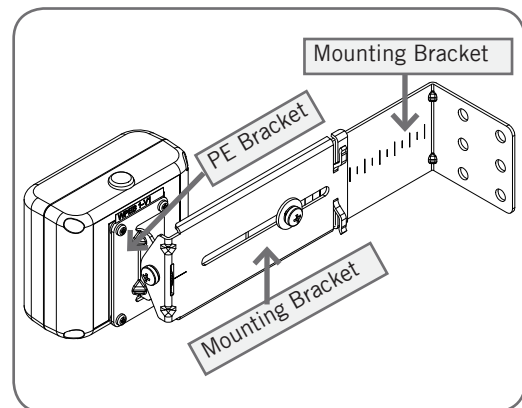

Fig. 45
- Attach the mounting bracket to the adjustment bracket with one pan head screw M5 x 10. (**Fig. 45**).